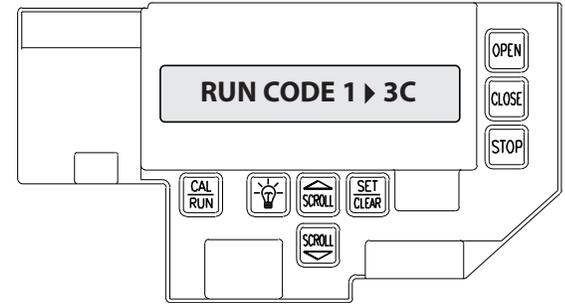

Figure 3
*The run code memory stores the last 10 error codes in sequence. Once 10 codes are stored, the oldest code is erased to make room for the newest code. These codes are displayed in calibration mode. The display will flash the number of the run code and the 2-digit run code followed by a description of the run code. **Fig. 3 & 4.***
To view the run code memory: (Fig. 3 & 4)